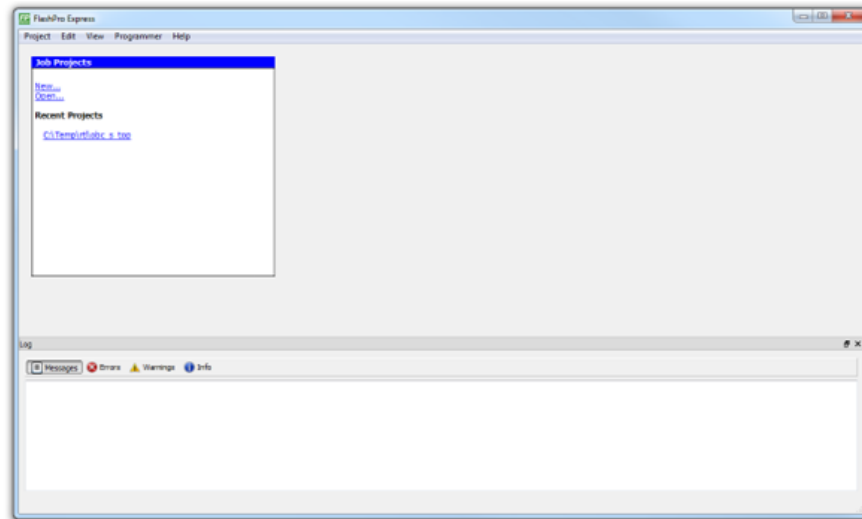

Figure 12.1 - Startup view of FlashPro Express
1. Connect the FlashPro5 programmer via the 104470 FPGA programming cable assembly to the JTAG-RTL connector in Figure 12.1.
2. Connect the power cables according to Figure 12.1.
4. Start the FlashPro Express application, click “Open...” in the “Job Projects” box (see Figure 12.1) and select the supplied `.pro` file.